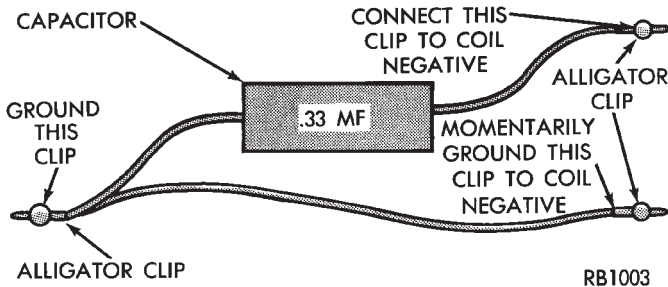

Fig. 10 Special Jumper Ground-to-Coil Negative Terminal
(6) Remove test lead from the coil positive terminal. Connect an 18 gauge jumper wire between the battery positive terminal and the coil positive terminal.
(7) Make the special jumper shown in (Fig. 10). Using the jumper, **momentarily** ground the ignition coil driver circuit at the PCM connector (cavity A-7). For cavity/terminal location of this circuit, refer to Group 8W, Wiring. A spark should be generated at the coil cable when the ground is removed.